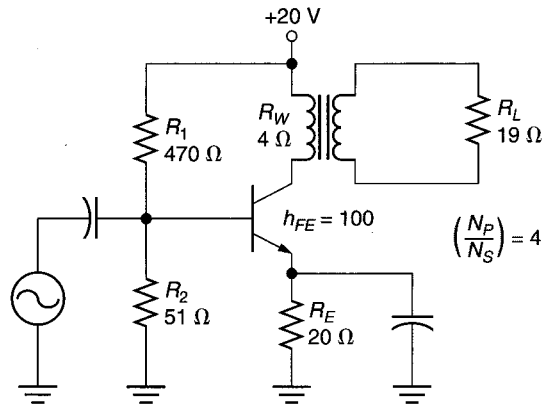

FIGURE 11.53
18. Derive the ac load line for the circuit shown in Figure 11.53.
20. Determine the maximum load power for the circuit in Figure 11.53.
22. Calculate the maximum efficiency of the amplifier in Figure 11.53.